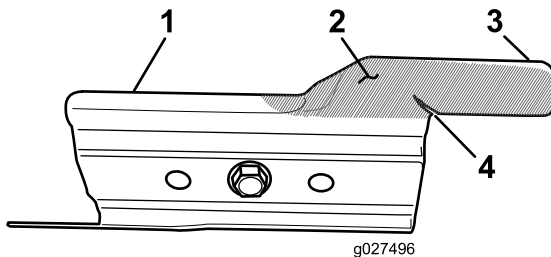

Figure 29
Carefully examine the accelerator for excessive wear (Figure 29). Because sand and abrasive material can wear away the metal (especially in the area shown as item 2 in Figure 29), check the accelerator before using the machine. If you notice that a tab on the accelerator has been worn down to a sharp edge or there is a crack, replace the accelerator; refer to Removing the Blade (page 24).